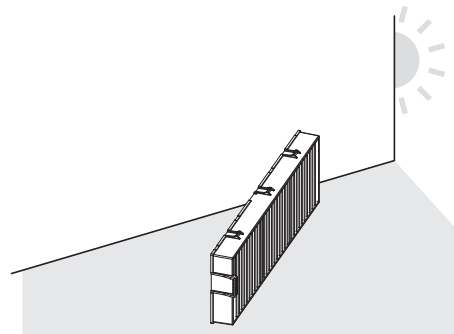

Fig. 2
2) Dry the air filter unit. (Fig. 2)